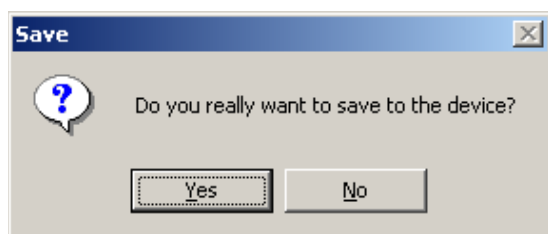

Figure 4-2 Comm Access Code Change Confirmation Screen
3. Select **Save**, IPScom will display a Comm Access Code change Confirmation Screen (Figure 4-2).
3. Select **Save**, IPScom will display a User Access Code change Confirmation Screen (Figure 4-2).